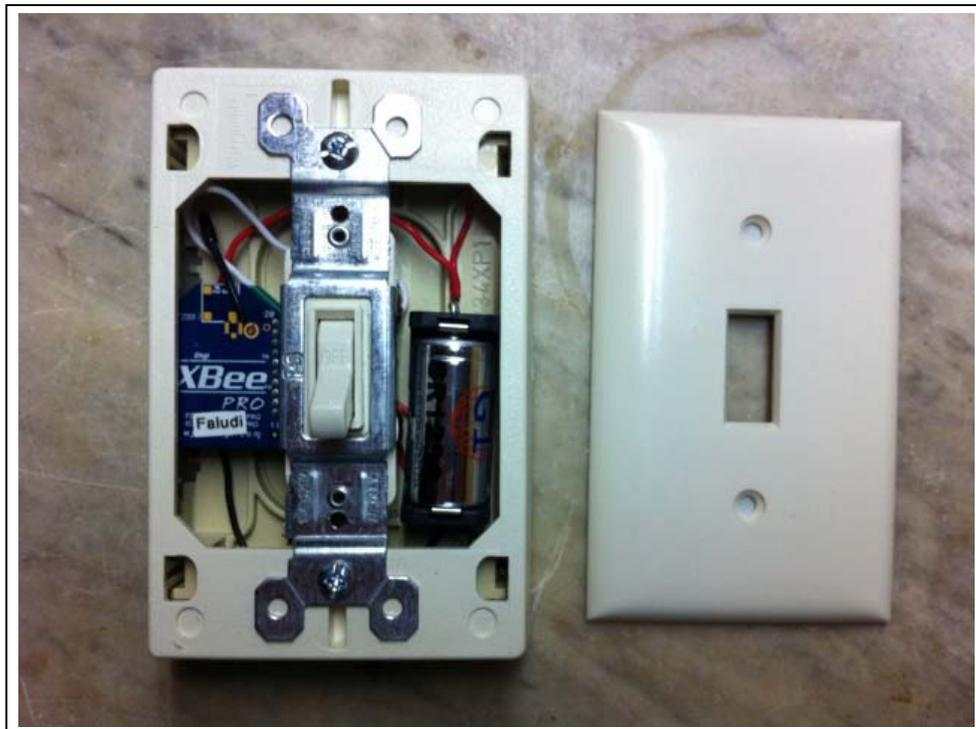

Figure 8. Light Switch XBee, assembled with faceplate off
1. Place the light switch into its PCV plastic housing, arranging the XBee on one side and the battery holder on the other as shown in Figure 8. Use the two longer screws to attach the switch to the housing.